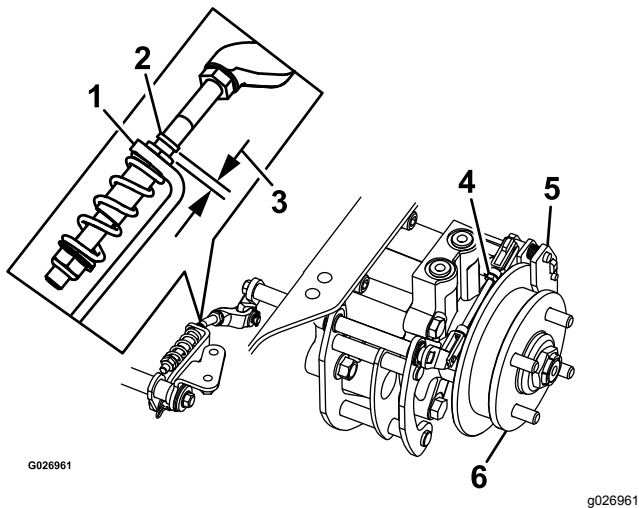

Figure 78
8. Check to see if there is a visible gap between the L-bracket and the linkage stop (Figure 78).